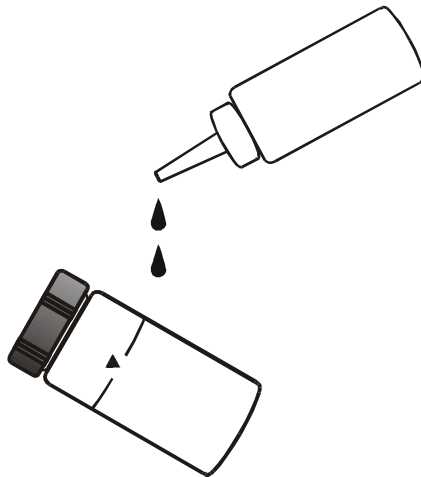

Figure 8: Apply a Thin Film of Silicone Oil
- 7 Apply a thin film of silicone oil (supplied) on the sample vial (see Figure 8). Wipe with a soft cloth to obtain an even distribution over the entire vial's surface.